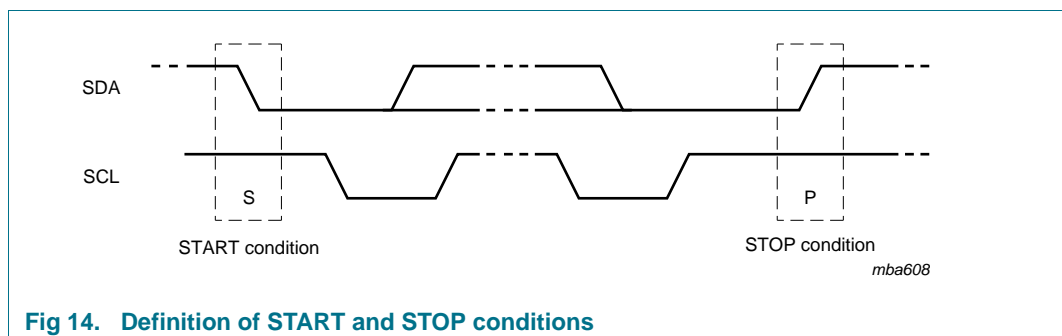

Fig 14. Definition of START and STOP conditions
Both data and clock lines remain HIGH when the bus is not busy. A HIGH-to-LOW transition of the data line while the clock is HIGH is defined as the START condition (S). A LOW-to-HIGH transition of the data line while the clock is HIGH is defined as the STOP condition (P) (see Figure 14).